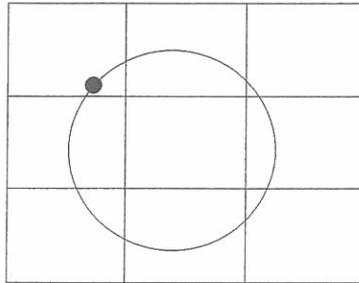

FIG 17
7. Set the sensitivity (5) to 30 db or more.
8. While turning the phase control (8), check for movement of the spot. The optimal setting is achieved when there is minimal movement of the spot. If a circle is scribed as in Figure 17, the coils are not balanced.